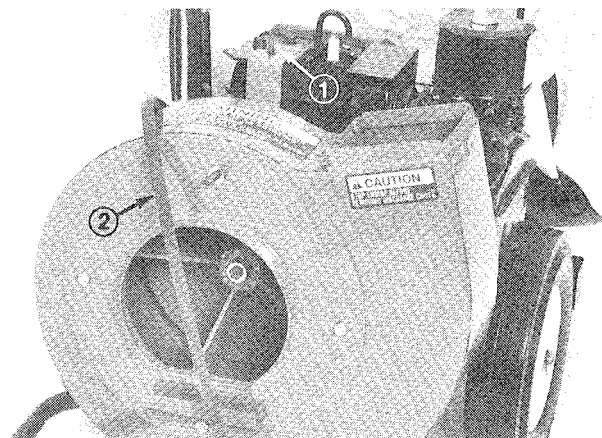

Figure 25
5. Remove front snout (Fig. 25).
6. Slip the bag off the chute and remove chute (Fig. 25).
7. Remove the flanged locknut securing the blower housing and lift the housing as much as the impeller allows (Fig. 25).
8. Route the new belt around the blower housing (Fig. 25).